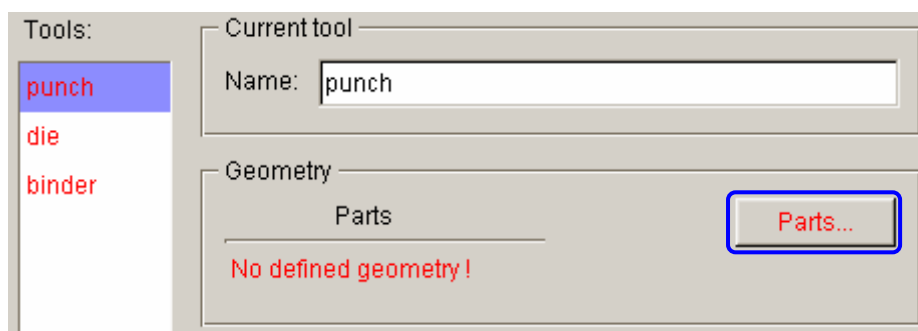

Figure 7.14 Punch definition
4. Press the **Parts...** button to assign a part as punch. See Figure 7.14.